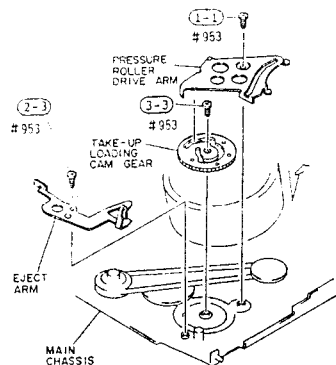

Fig. 2-70
- 1) Remove one (1) screw holding the pressure roller drive arm. (See Fig. 2-70)
- 3) Remove one (1) screw holding the eject arm. (See Fig. 2-70)
- Remove one (1) screw holding the take-up loading cam gear. (See Fig. 2-70)